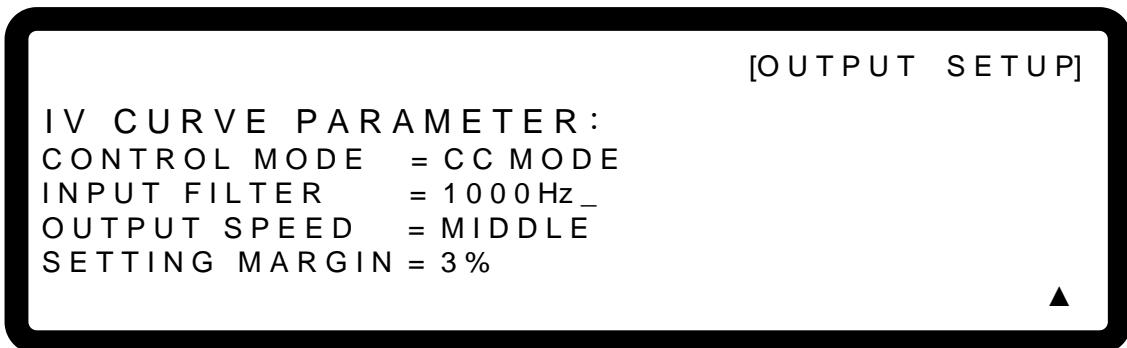

Figure 3-29
1. Use the “”, “” keys to move the cursor to the column to be set as shown in Figure 3-29.